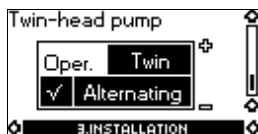

Fig. 5 Display, Twin-head pump
This display (fig. 5) is only available when the R100 is pointed at the master pump (1).